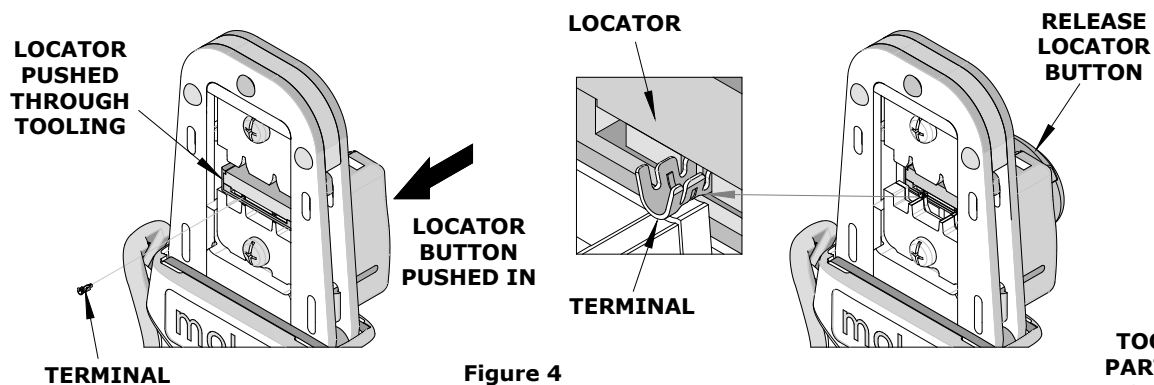

Figure 4
3. While holding the locator button in, load the terminal into the proper nest opening in the locator based on the wire gauge or terminal type markings on the hand tooling. See Figure 4.